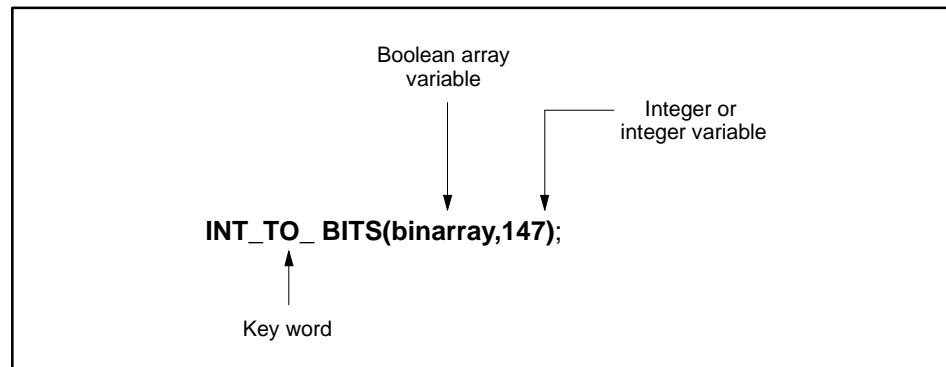

Figure 11-22 INT_TO_BITS Procedure
- The second variable contains the integer that is to be converted. See the example in Figure 11-22.